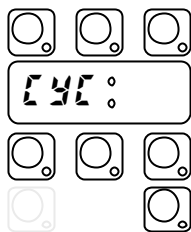
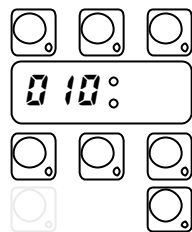

Fig. 4.4
Fig. 4.5
- Press CYCLE INFITE key to confirm. The display shows the next parameter (Fig.4.4) and the corresponding value (Fig.4.5);